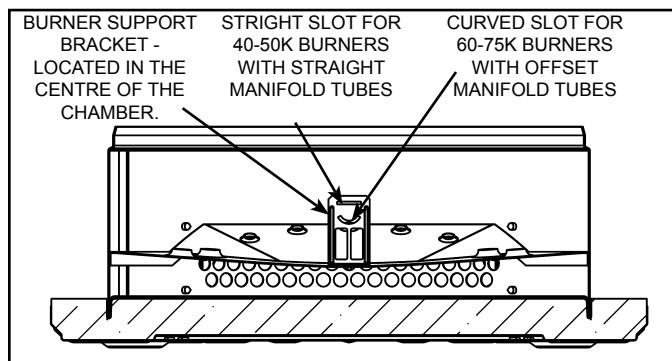

Figure 16
1. Insert the manifold/burner assembly in the burner chamber compartment, making sure that the tip of burner manifold tab engages in the proper slot of the bracket. The tip end of the burner manifold MUST be placed in the slotted portion under the condensation pan to obtain proper installation (see Figure 16).
1. Insert the manifold/burner assembly in the burner chamber compartment, making sure that the tip of burner manifold tab engages in the proper slot of the bracket (see Figure 16).